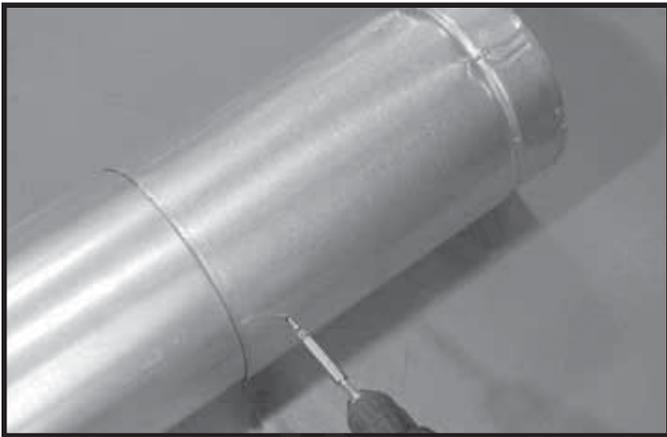

Figure 8.4 Screws into Slip Section
- Secure the pipe and slip section with two screws no longer than 1/2 in. (13 mm), using the pilot holes in the slip section. See Figure 8.4.